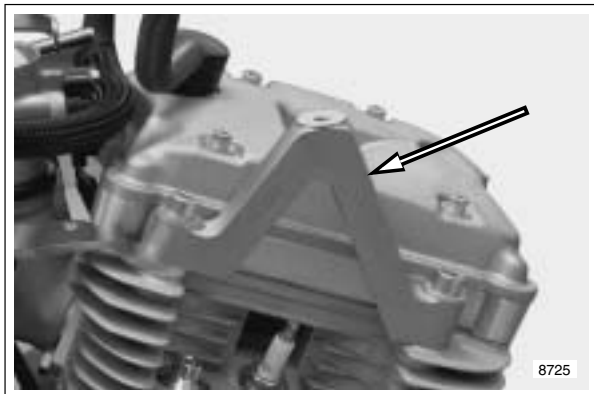

Figure 3-26. Center Tie Bar Mount
- See Figure 3-26. Center tie bar mount.